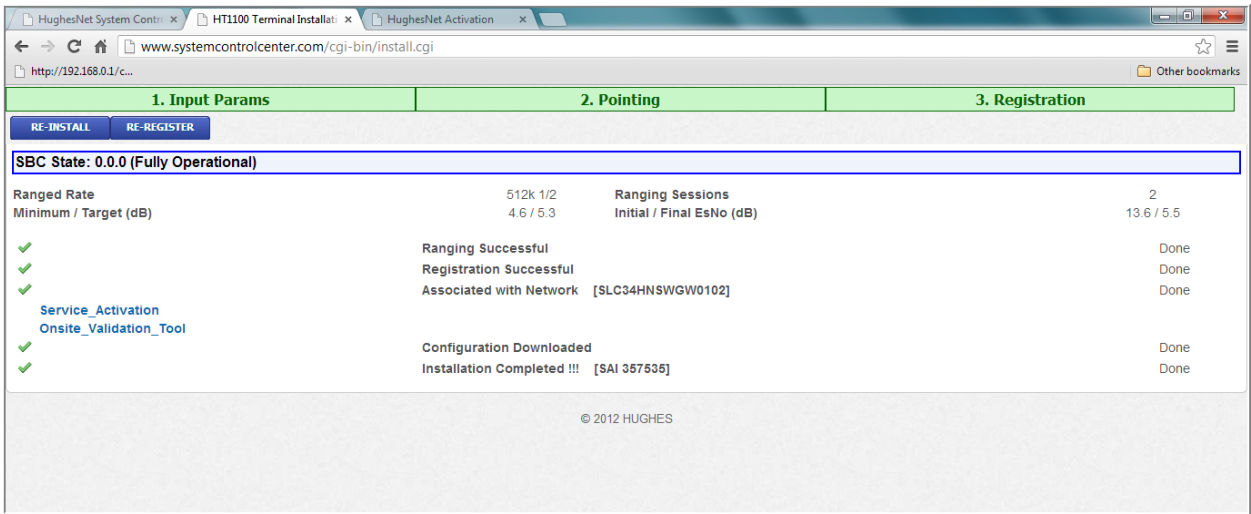

Figure 34: Complete message screen
1. From the Terminal Activation Successful screen, click the Terminal Installation tab. Figure 34 shows the Installation is complete.